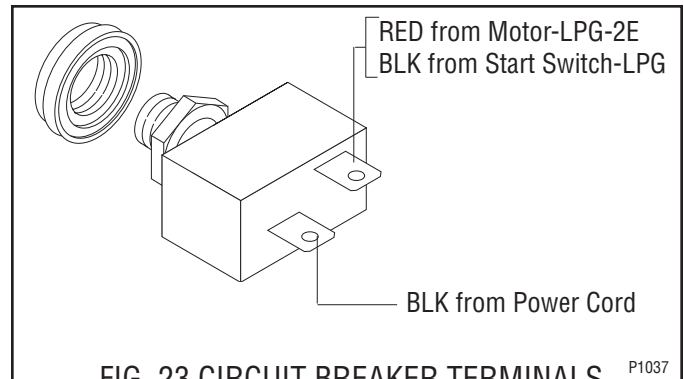

FIG. 23 CIRCUIT BREAKER TERMINALS
6. Refer to FIG. 23 when reconnecting the wires.